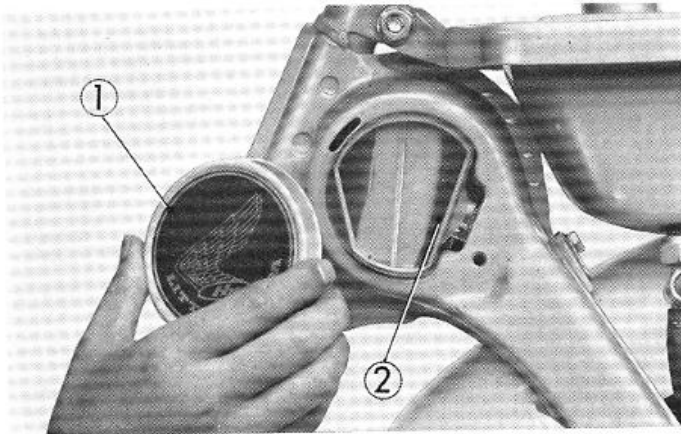
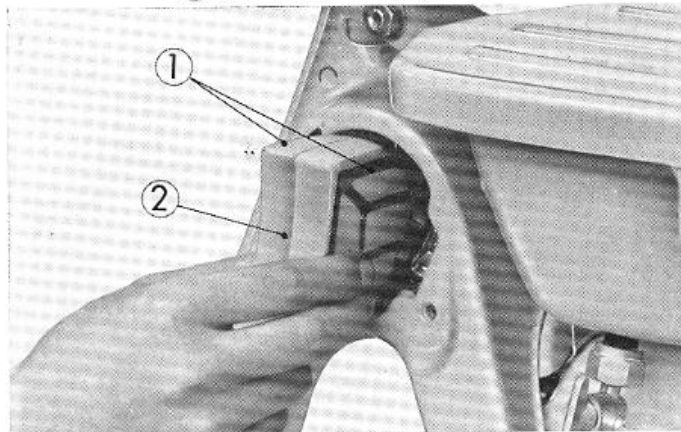

Fig. 1-26 ① Air cleaner cover
Fig. 1-27 ① Element set plate
- (1) Remove the air cleaner cover.
- (2) Remove the air cleaner case cap. (Fig. 1-26)
- (3) Remove the air cleaner element together with the element set plate.
- (4) Tap the air cleaner element lightly to remove the dust or wash in water. (Fig. 1-27)